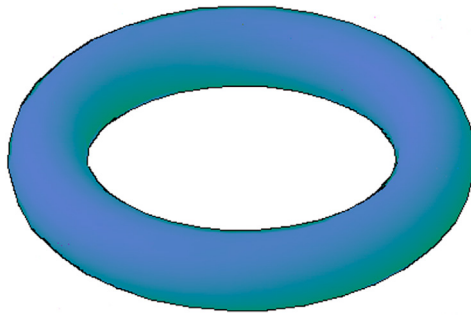

FIGURE 23.23 Torus primitive.
Step 4. Drag your mouse (or enter a value) and the torus shape is automatically extruded, as seen in Fig. 23.23.